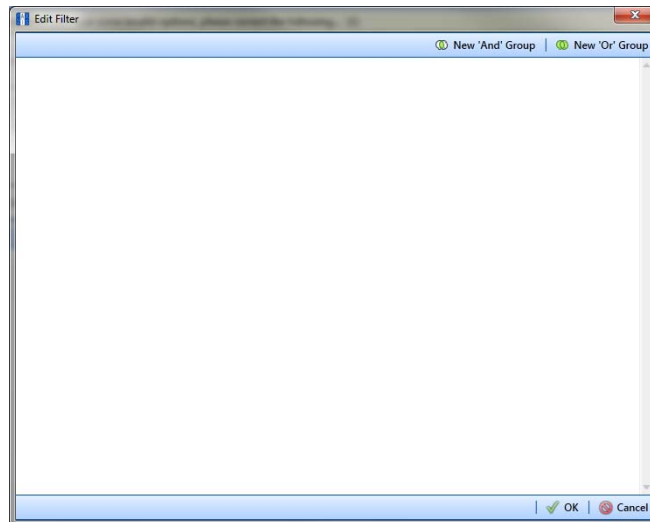

Figure 9-21. Edit Filter
- b Click  **Edit** in the *Filters* group box to open the *Edit Filter* dialog box (Figure 9-21).